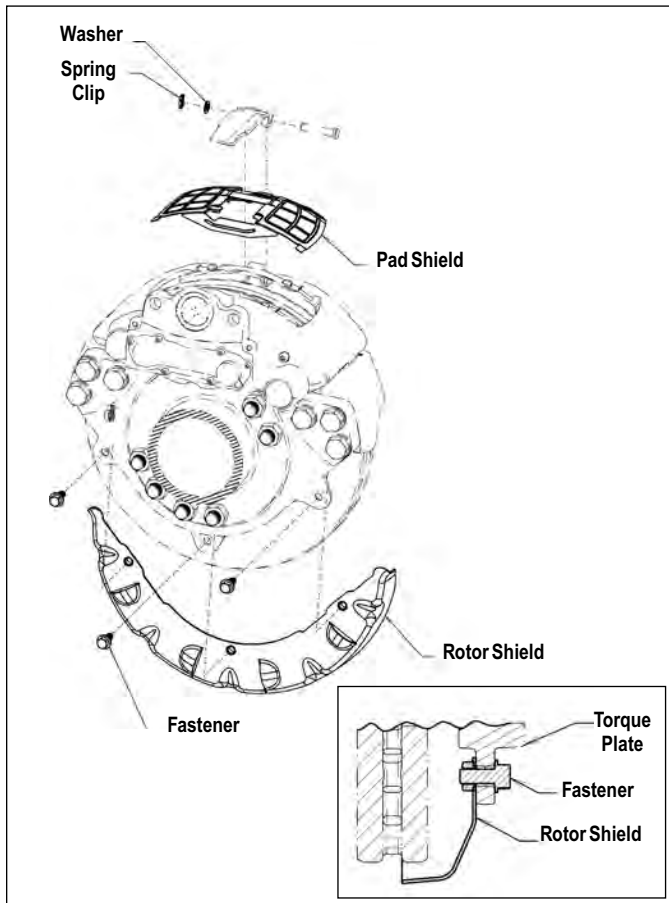

FIGURE 31 - DRIVE OR STEER AXLE EXPLODED VIEW WITH INSET SHOWING ROTOR SHIELD INSTALLATION
5.1.2 Remove and discard the spring clip and washer from the pad retainer pin. Remove and retain the retainer bar and retainer pin. Position the pad shield as shown and re-insert the retainer bar. Install the retainer pin. Use the included spring clip and washer to secure the retainer pin. Check that the pad shield is held securely in place by the retainer bar. See Figure 31 or 32.
5.1.3 **Drive or Steer Axle Rotor Shields** (See Figure 31). Position the rotor shield *between the torque plate and the rotor*. The supplied cap screws pass through the mounting tabs in the torque plate and install into the shield. Torque cap screws to 44 Ft. Lbs. (528 in. lbs.).